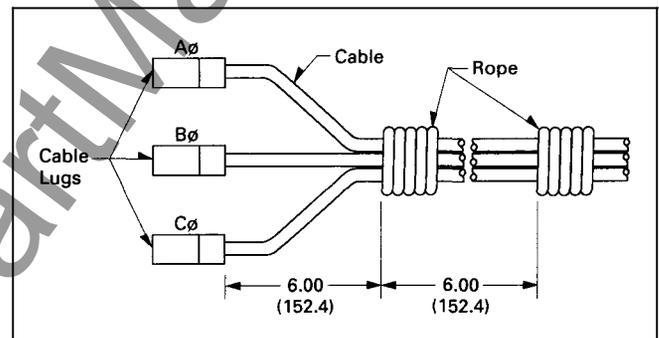

Figure 20. Cable Bracing
1. The material required for the cable braces is 3/8" diameter nylon rope ① or any rope having a minimum tensile strength of 2,000 pounds. ●
2. All cable conductors of a load circuit are to be bundled together with five adjacent wraps of rope at distances of 6 inches and 12 inches from the supply terminals for ratings up to 200 amperes maximum. (See Figures 20 and 21.)